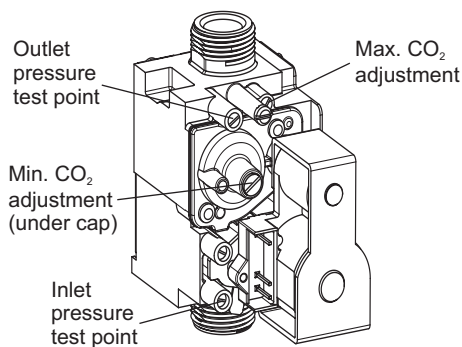

Fig. 26
2. Loosen the gas inlet pressure test point screw on the gas valve (see Fig. 26). Ensure the gas supply is on and open the boiler service cock to purge in accordance with BS 6891.
5.6 CHECK THE BURNER PRESSURES - Figs. 26 and 27